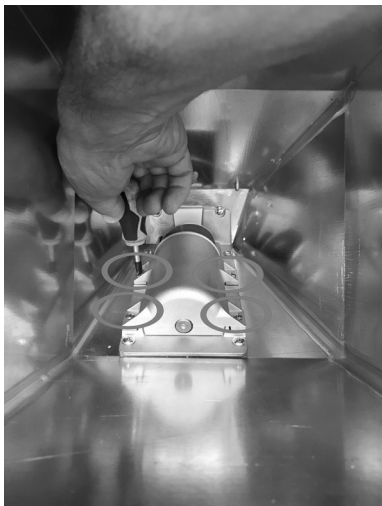

Fig. 77 - Screw removal
- Enter the tank and loosen the 4 screws of the feed screw coque (see **Fig. 77**).